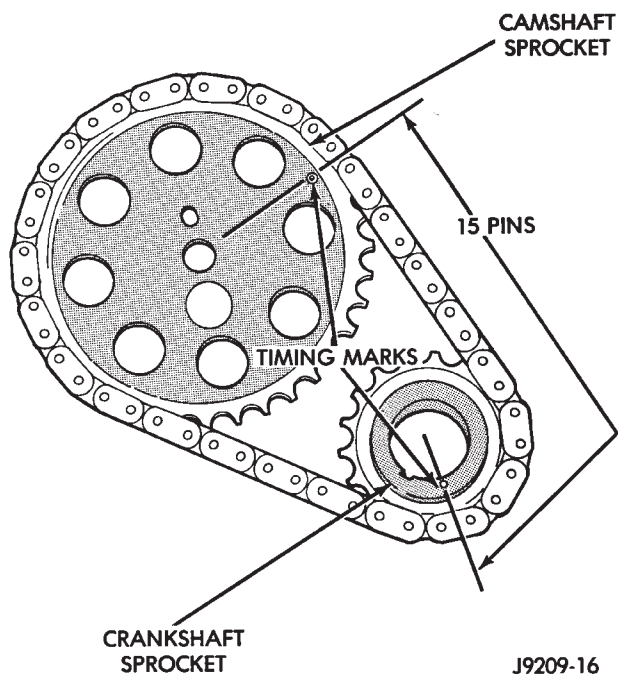

Fig. 47 Verify Crankshaft—Camshaft Installation—Typical
- (5) To verify correct installation of the timing chain, turn the crankshaft to position the camshaft sprocket timing mark as shown in (Fig. 47). Count the number of chain pins between the timing marks of both sprockets. There must be 15 pins.
- (6) Install the crankshaft oil slinger.
- (7) Tighten the camshaft sprocket preload bolt to 108 N·m (80 ft. lbs.) torque.
- (8) Check the valve timing.
- (9) Lubricate the tension spring, the thrust pin and the pin bore in the preload bolt with Mopar Engine Oil Supplement, or equivalent. Install the spring and thrust pin in the preload bolt head.
- (10) Coat both sides of the replacement timing case cover gasket with gasket sealer. Apply a 3 mm (1/8 inch) bead of Mopar Silicone Rubber Adhesive